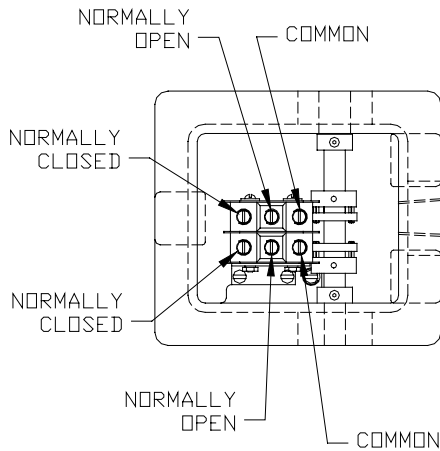

Figure 3: Terminal Identification (SPDT)
1. A cam (or two cams on the two micro-switch unit) on the shaft actuates the micro-switch. Loosening the cam(s) and the shaft locking collars permits the shaft to be moved laterally in the casting. The paddle sensor and counterweight can be positioned anywhere on the shaft. Use the 3/32" allen wrench supplied with the control. Refer to figure 3.
3. After mounting the unit, the cover should be removed to adjust the cam on the shaft to give micro-switch actuation at the desired point. Both the paddle and the counterweight may have to be loosened, rotated and re-tightened on the shaft to achieve proper actuation. Refer to figure 3.